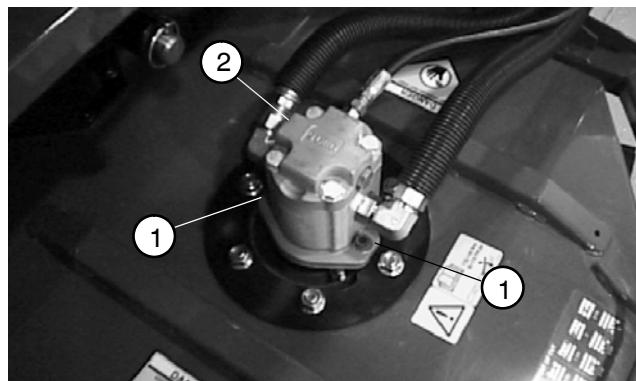

Figure 77
4. Remove two socket head screws that secure hydraulic motor to cutting deck (Fig. 77).
2. Secure motor to cutting deck with two socket head screws (Fig. 77).